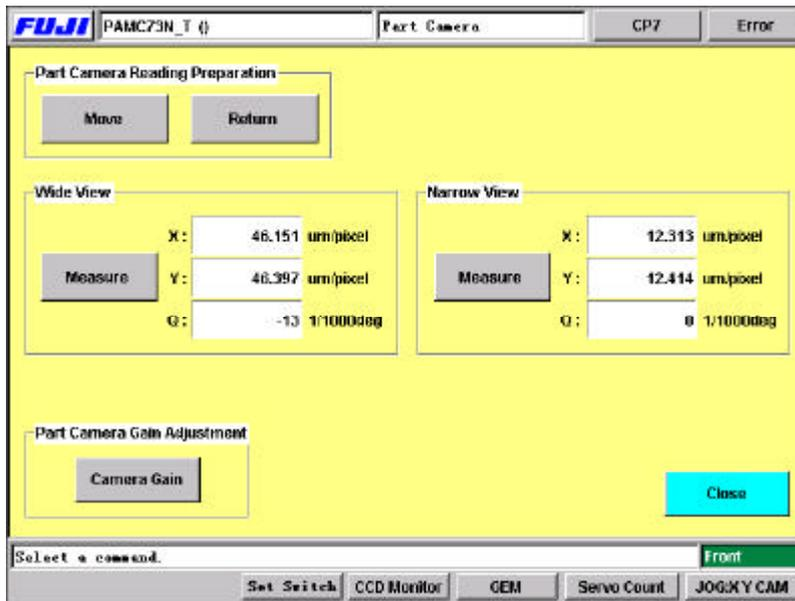

FIGURE 10
2. Press: [Maintenance] → [Calibration] → [Parts Camera Resolution] to display the Part Camera Gain Adjustment command. (Figure 10)